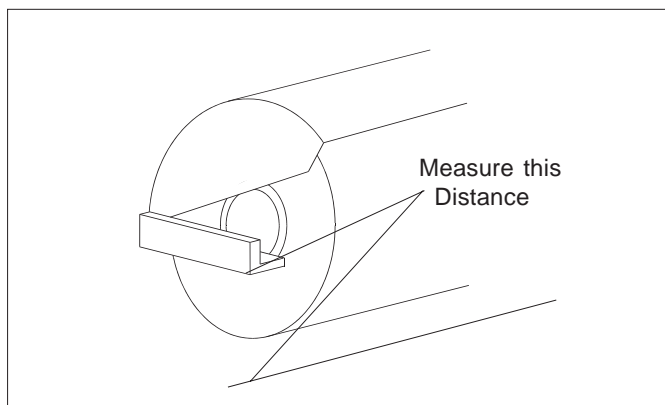

figure 3
5. With the brush head assembly straight ahead, measure from each end of the brush frame tubing to the ground (figure 3).